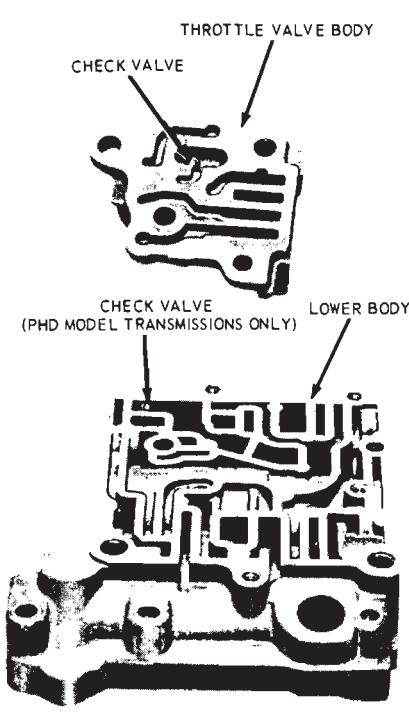

FIG. 48—Check Valve Locations
2. Place the check valve in the upper body as shown in Fig. 48. Then, position the separator plate on the body.
4. Place the check valve in the cover (Fig. 48) and position the cover and separator plate on the lower body. Start the four through bolts.